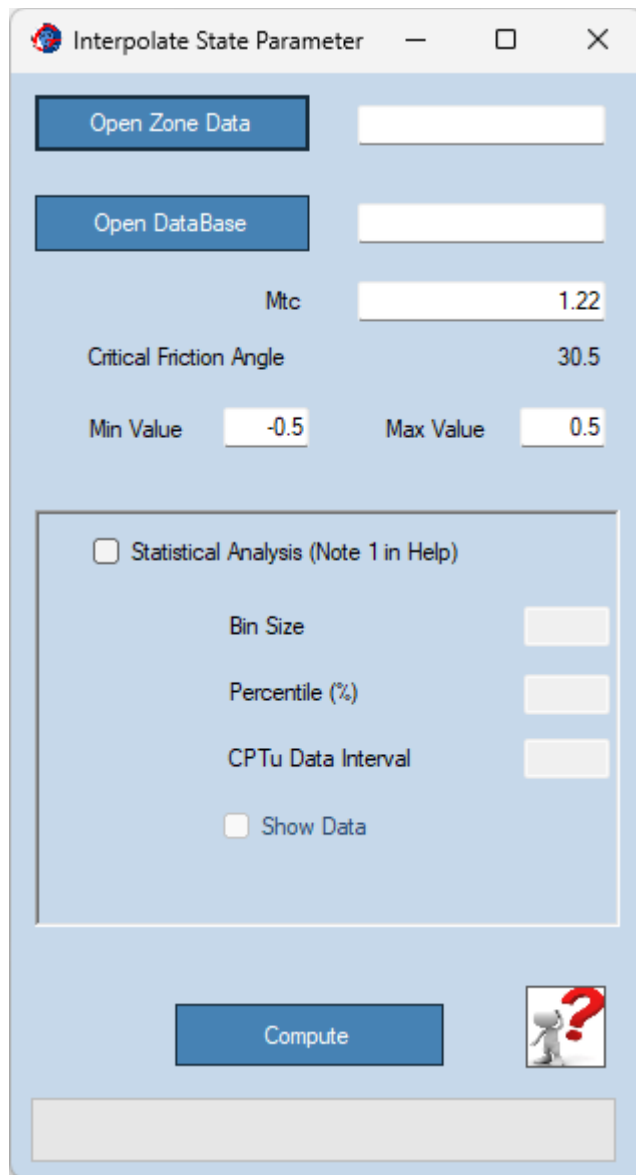

Figure 13: Interpolate State Parameter dialog window.
- **Interpolate State Parameter:** Opens the dialog window shown in Figure 13. This option interpolates the state parameter for an already existing FLAC3D® model. This option can use a state parameter (from example, for a pre processed Excel spreadsheet) and interpolate the state parameter across the mesh domain. Also, it can use advance options, such as either Jefferies (1992) and Plewes (1992), or Shuttle and Cunnings (Widget, 2007) and internally compute the state parameter. Using these last two options over more traditional methods, allows taking into consideration the variability of the stress ratio or K0 conditions.